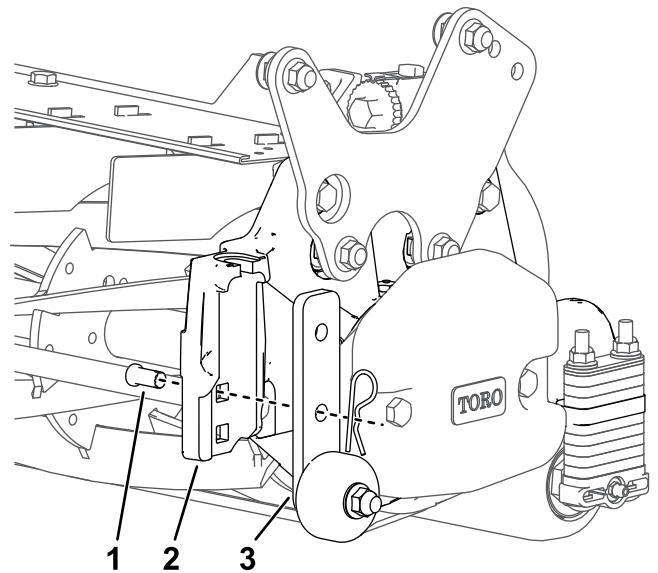

**Figure 17**
- Lower the shop roller brackets before the cutting unit is lowered to the shop floor or removed from the traction unit (Figure 17).